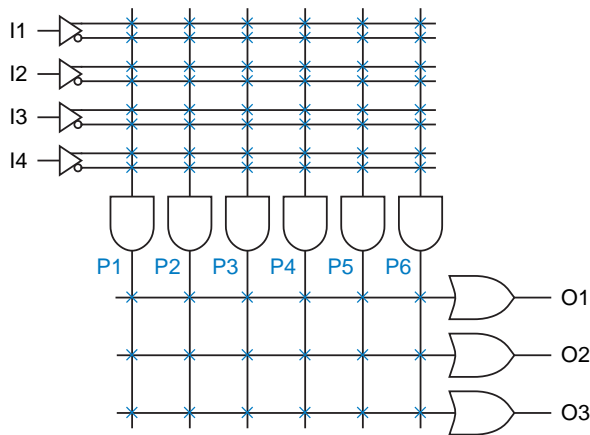

Figure 4: Compact representation of a 4×3 PLA with six product terms.
- PLA in Fig. 4 can perform any three 4-input combinational logic functions that can be written as SOPs using a total of six or fewer distinct product terms, e.g.